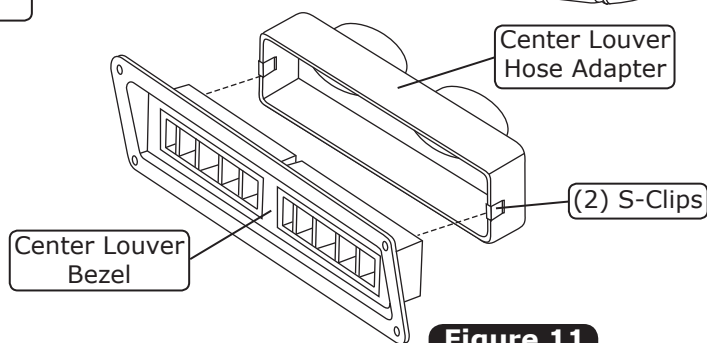

Figure 11
4. Install the center louver duct hose adapter onto the center louver bezel using (2) S-clips as shown in Figure 11, below.